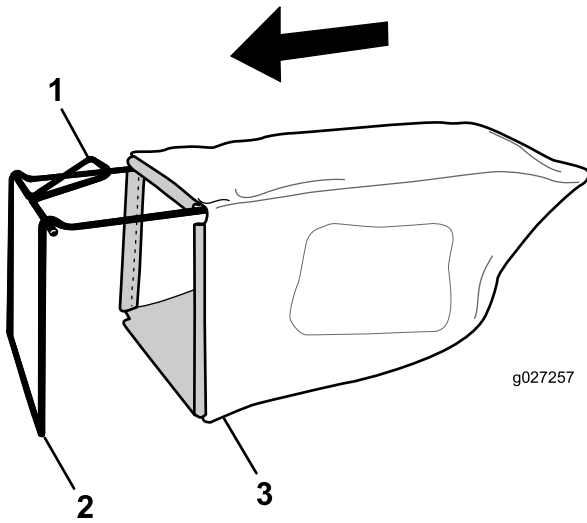

Figure 9
7. Read the oil level on the dipstick (Figure 9).
1. Slip the grass bag over the frame as shown in Figure 9.
**Note:** Do not slip the bag over the handle (Figure 9).